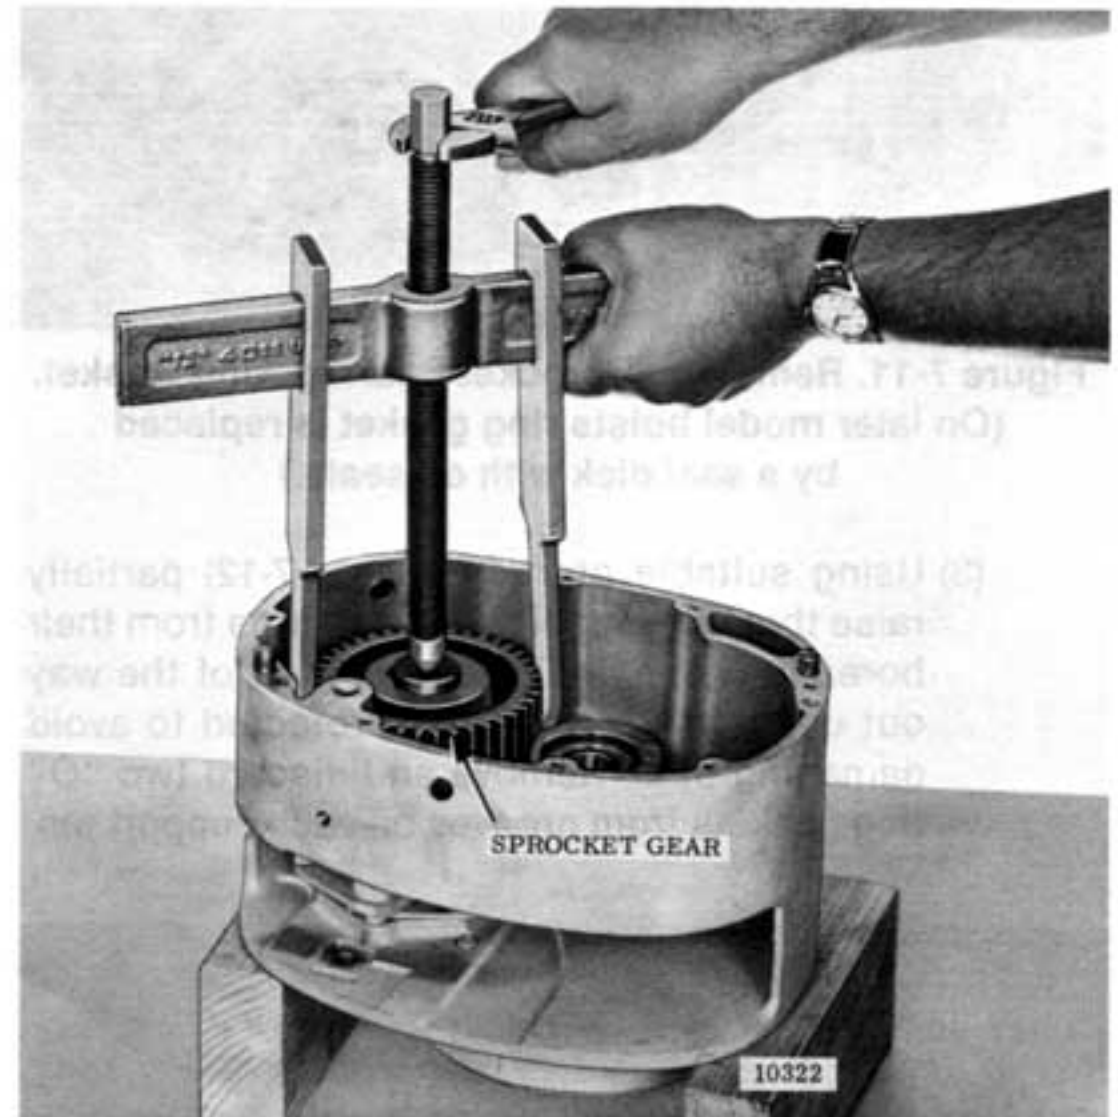

Figure 7-9. Pulling Sprocket Gear from Sprocket Shaft Using Common Puller.
- (1) Remove retaining ring from end of sprocket shaft and pull off sprocket gear using a common puller (Figure 7-9). Remove Woodruff key from shaft.